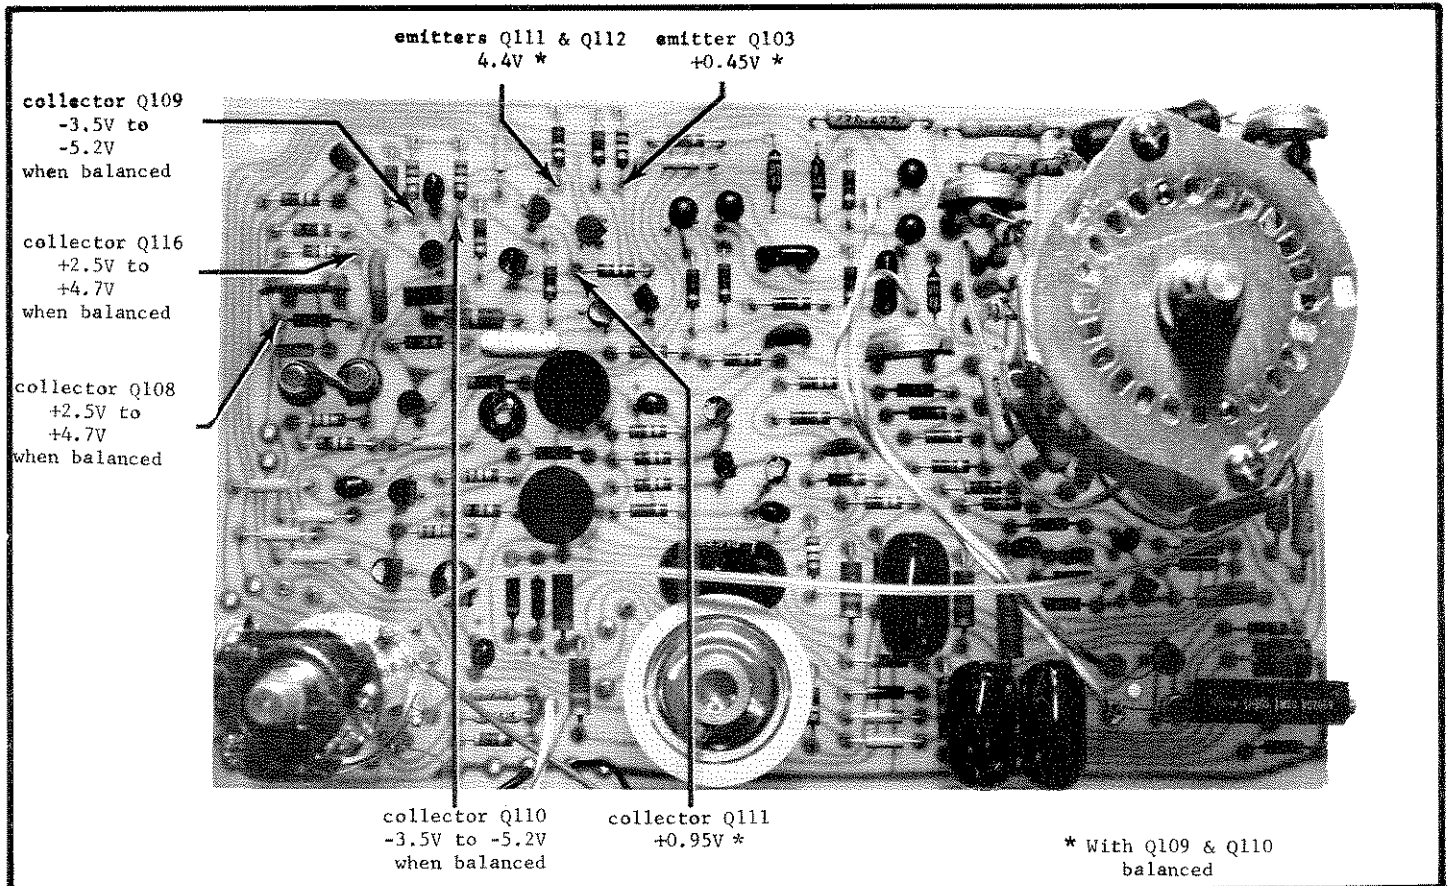

FIGURE 7. Test Points Within DC Amplifier Circuit and Indicated Nominal Voltages to be Expected at Test Points.
3. To localize the trouble in the dc amplifier, refer to Figure 7. It shows test points within the dc amplifier circuit and indicates nominal voltages to be expected at the test points.